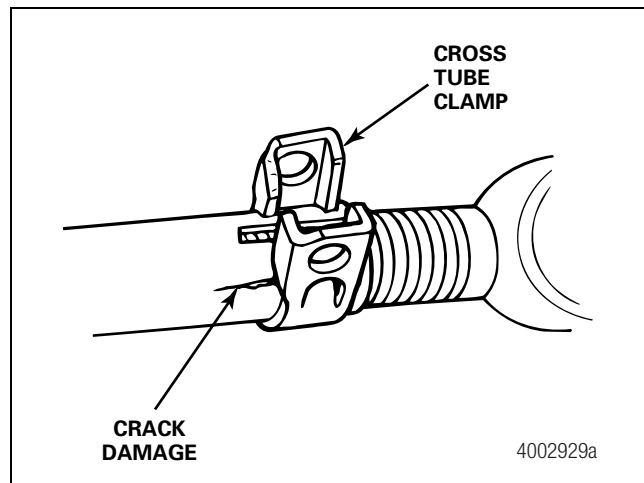

Figure 3.8
11. Inspect the cross tube and clamps for damage. Figure 3.8.